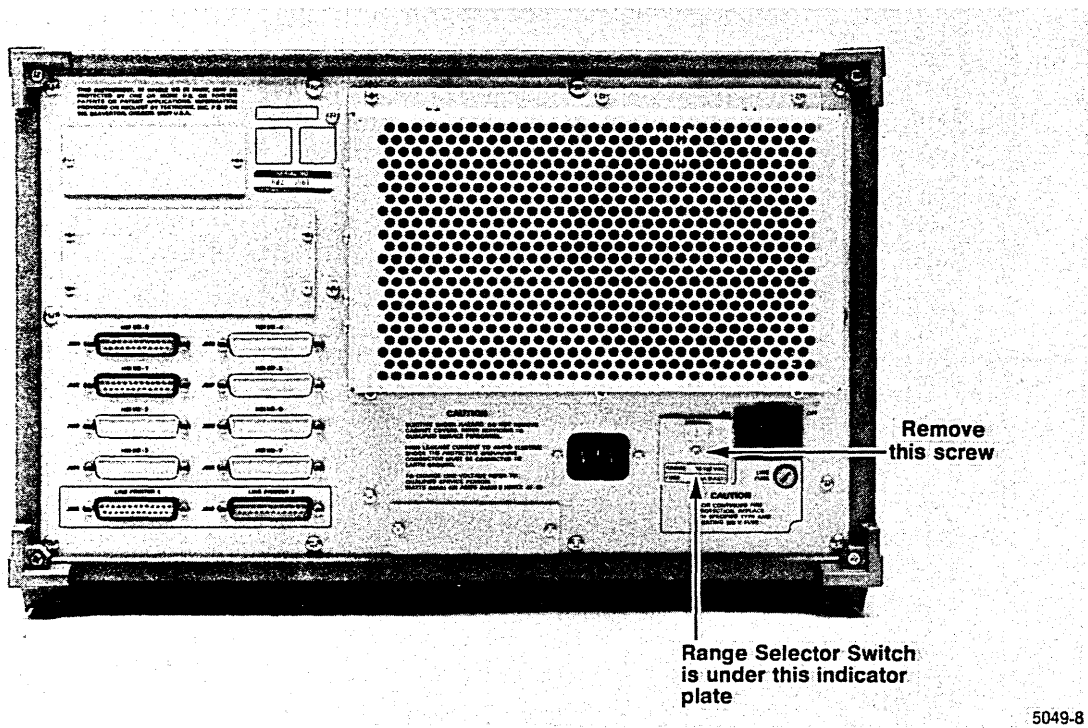

Fig. 5-7. Selecting the primary power voltage range.
1. Face the rear of the unit. Notice the small plate in the lower right portion of the rear panel. Remove the screw that holds this plate, as shown in Fig. 5-7.